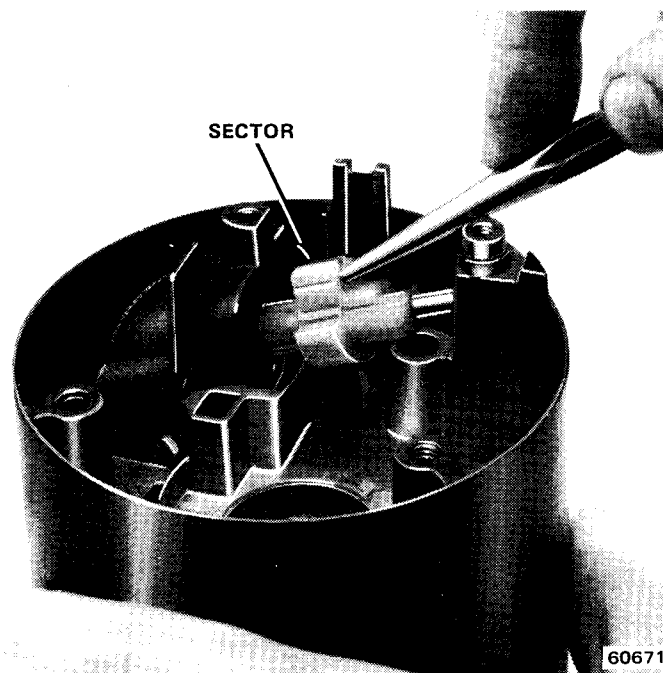

Fig. 11-17 Removing Sector
(21) Remove sector through lock cylinder hole in housing. Push on block tooth of sector with blunt punch to remove (fig. 11-17).
(23) If sector gear requires service, note position of sector on shaft for assembly reference and remove by driving shaft out of lock cylinder hole with punch (fig. 11-17).
(24) Remove shift gate lock from upper housing. Examine shift gate lock detents for wear; replace if excessively worn.